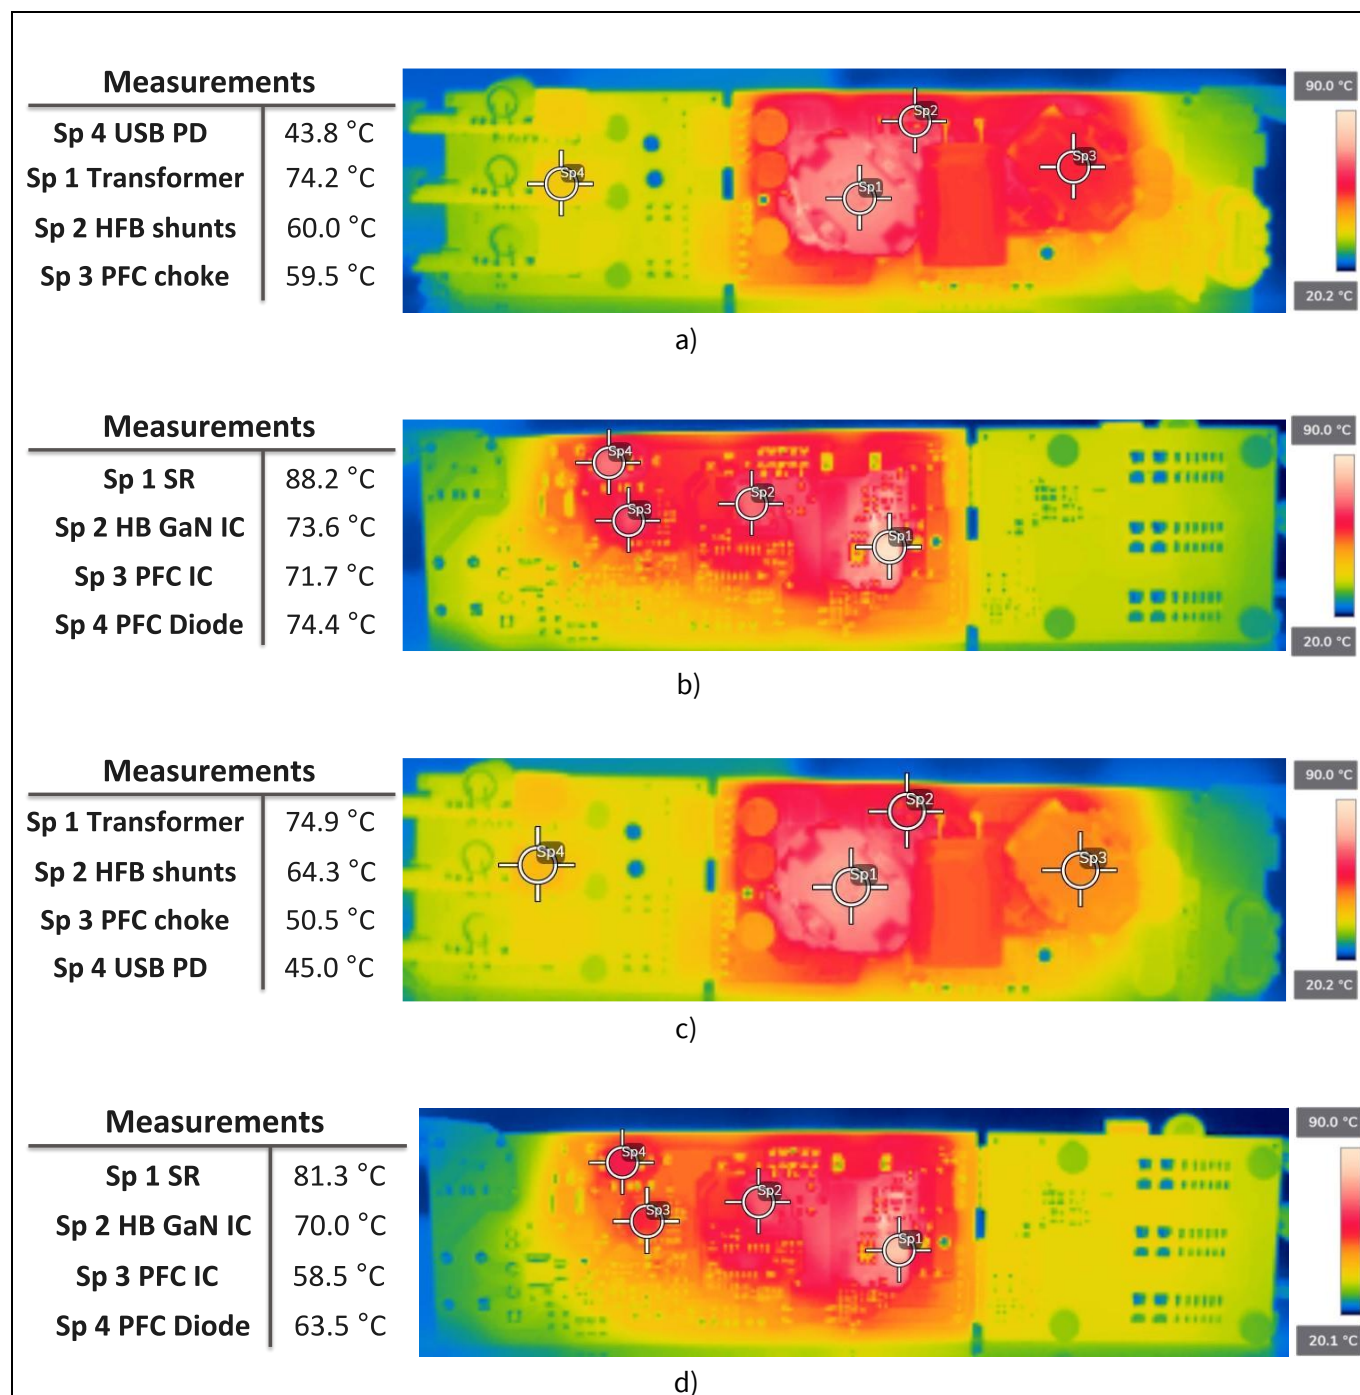

Figure 28 Thermal images: a) 115 V AC top, b) 115 V AC bottom, c) 230 V AC top, d) 230 V AC bottom
The following images in Figure 28 are the infrared (IR) thermal images of the board at 115 V AC and 230 V AC input and full power output (120 W) after 1-hour burn-in time and at 24°C ambient temperature.